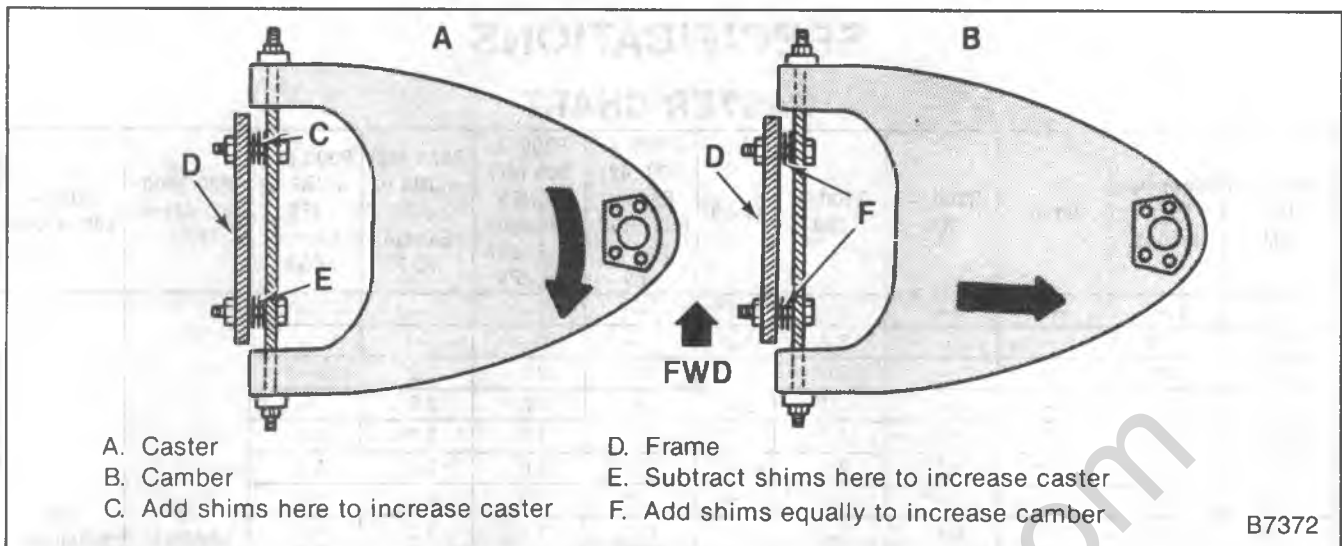

Figure 3—Caster-Camber Adjustment
5. Refer to figure 3. To determine an "actual (corrected) caster reading" with various frame angles and caster readings, one of the following rules apply:
6. Dimension "BC" is measured 90 degrees from the lower surface of the crossmember (C) and to the inboard rear corner of the jounce bumper bracket (B).